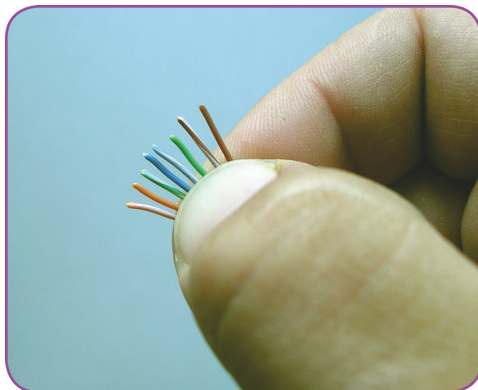

Figure D-6: Preparing to cut the Wires
5. Push the wires together in a neat row. It may help to hold the wires between the index finger and thumb of one hand while straightening them with the other hand (see **Figure D-6**).